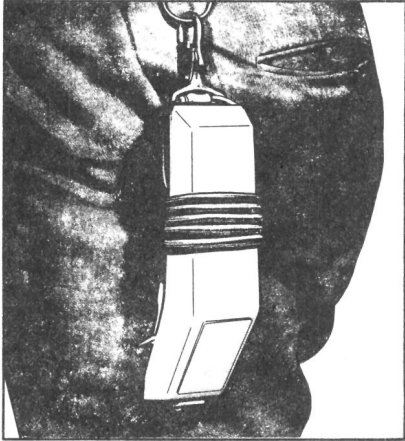

FIGURE 6. Wearing of Handset on Tool Belts
2.09 All handsets are equipped with a snap hook to allow the handset to be carried on a tool belt. The hook is positioned in such a manner as to allow the handset to hang and follow the contour of the body, thus affording protection to the face of the handset as shown in Figure 6.